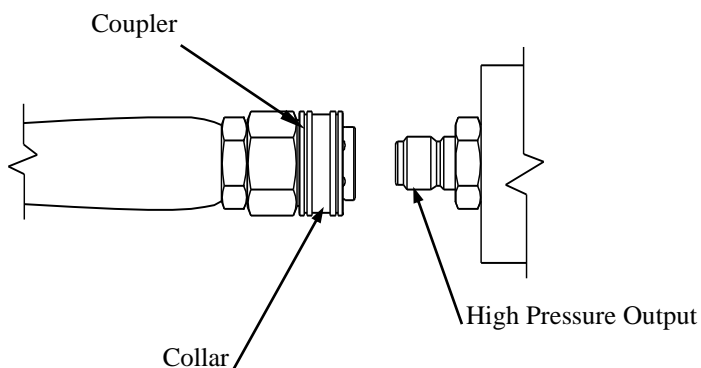

Figure 8a
2. Your pressure washer hose is equipped with quick couplers. Simply pull the collar back and push the coupler onto the water outlet nipple. (Figure 8a). The collar should slide over the ball bearings.